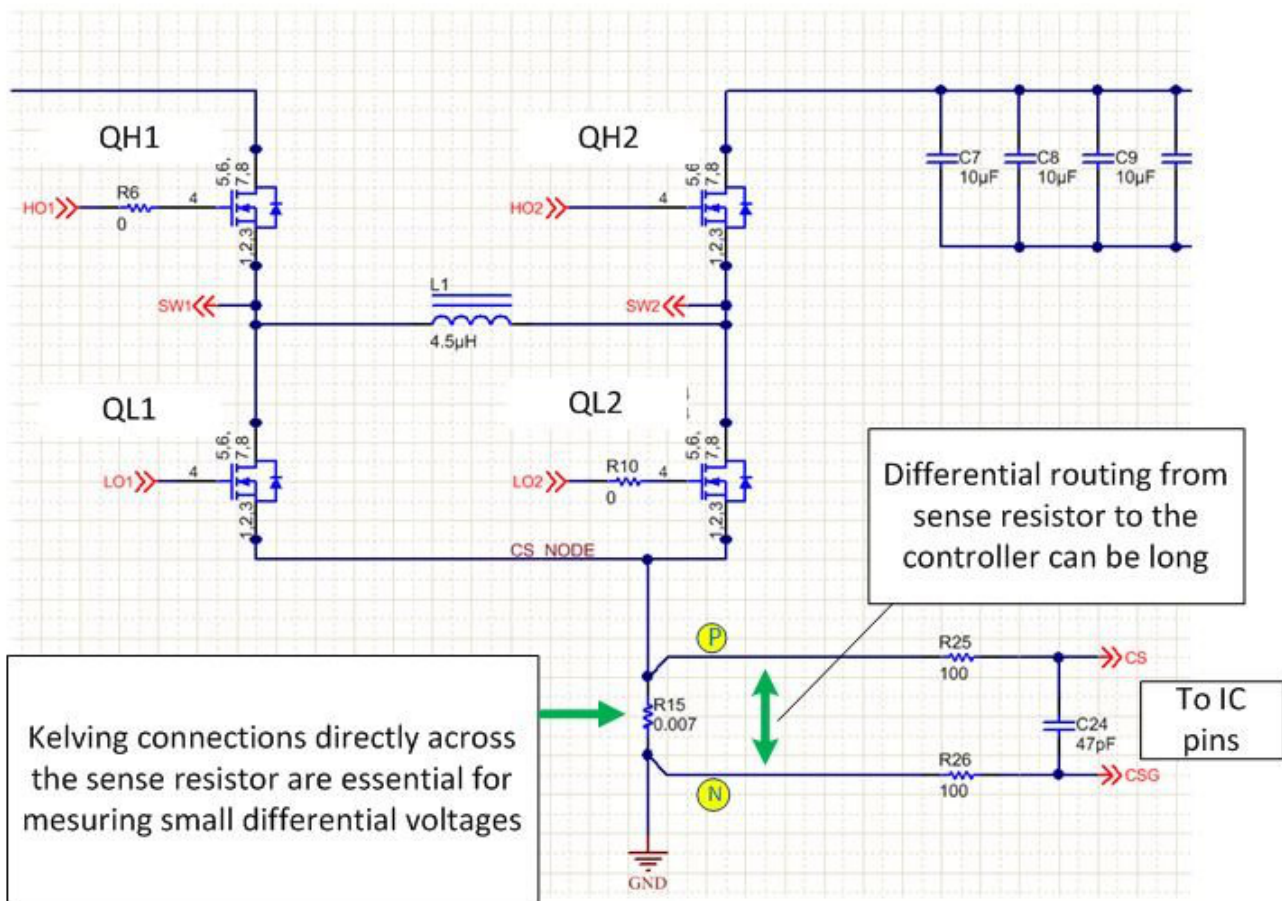

Figure 1. An LM5175 Schematic Showing Differential Sense Connection from Power Stage to the Controller Pins.
In my last blog, I provided tips for optimizing hot loops in a buck-boost converter. I decided to add this tip as a separate topic after finding it in almost all of the layouts I reviewed late last year. The most frequently encountered issue in layout is the incorrect routing of differential sense signals from the sense resistor to TI's LM5175 integrated circuit (IC) pins (the CS-CSG pair). An example of sense connection is shown in Figure 1.